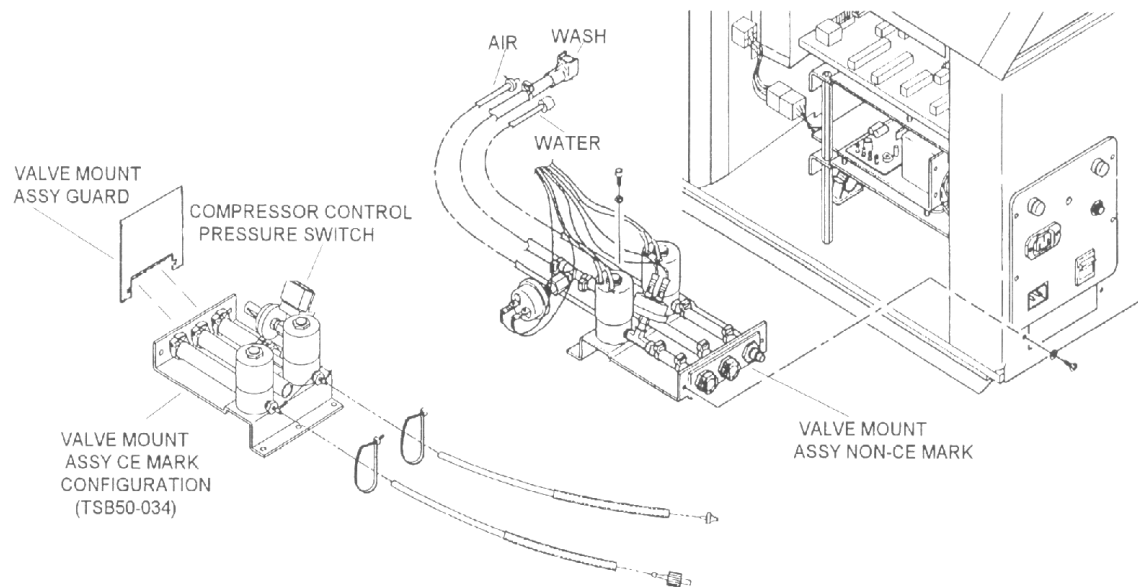

Figure 4-51. Valve Mount Assembly
3. □ Disconnect water, air, and waste lines from Valve Mount Assy (Figure 4-51).
Figure 4-51 shows both the Non-CE Mark and the CE Mark Valve Mount Assemblies. The Valve Mount Assembly on the CE Mark Configuration LN 6208-86 (reference **TSB50-034A**) is shown with the Valve Mount Assembly Guard and the Compressor Control Pressure Switch. Use the following procedure for Removal and Replacement. Verification is Identical for both instruments.
3. □ Disconnect water, air, and waste lines from Valve Mounting Assy (Figure 4-51).